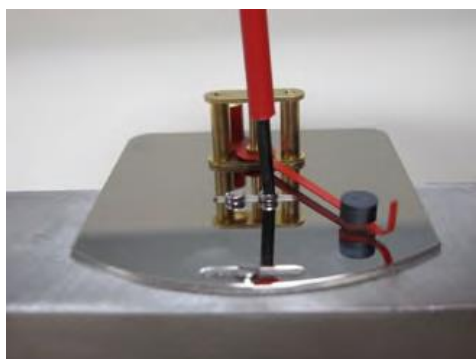

Fig. 66
- 15.** ► Set the display base plate on the device body and tighten the mounting screws so that they can still move. (Fig. 66). Make sure that the countersunk head screw is used for the long groove (area pointer tip) and the two (2) cylinder head screws are used for the base center.